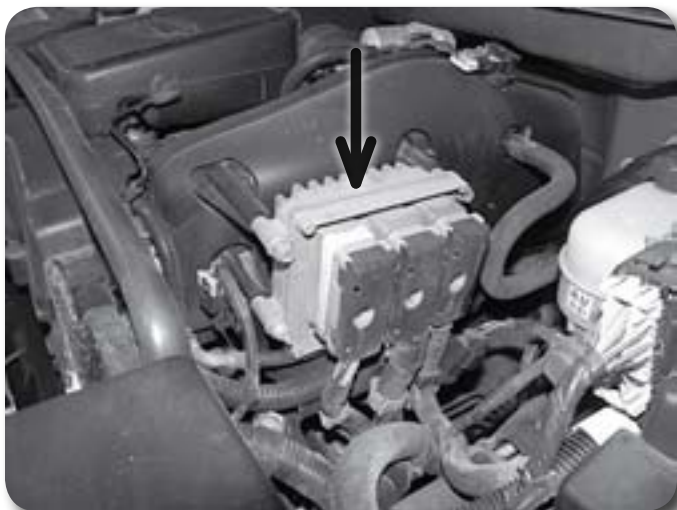

Figure 7
11. Remove the two bolts and two nuts mounting the electrical module to the driver's side of the engine **Figure 7**. Pull the module free of the mounting studs and allow it to rest out of the way. Save nuts and bolts.